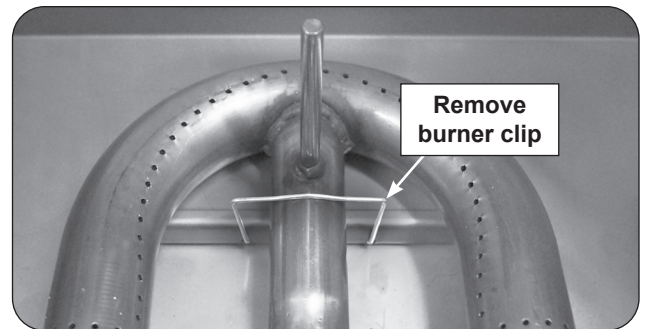

Fig. 37-2 Burner clip removal
2. Locate the burner clip (located over the rear center tube of the burner) and slightly pinch and remove the clip from the burner support (see Fig. 37-2).